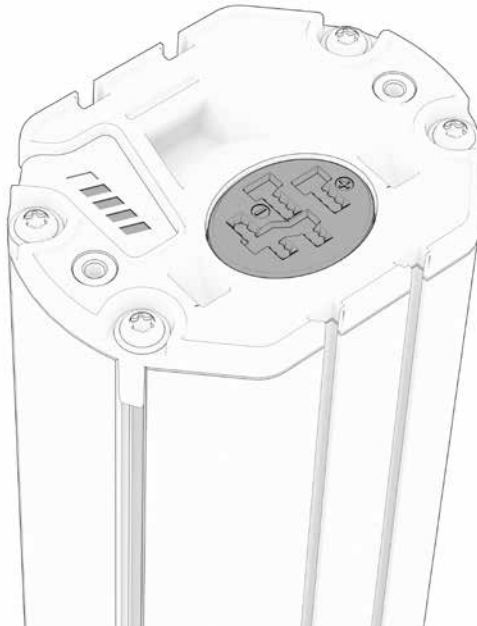

Fig. 14
1. First connect the plug of the charging cable into the charging port on the rechargeable battery (Fig. 14) and plug the charger into a power outlet.